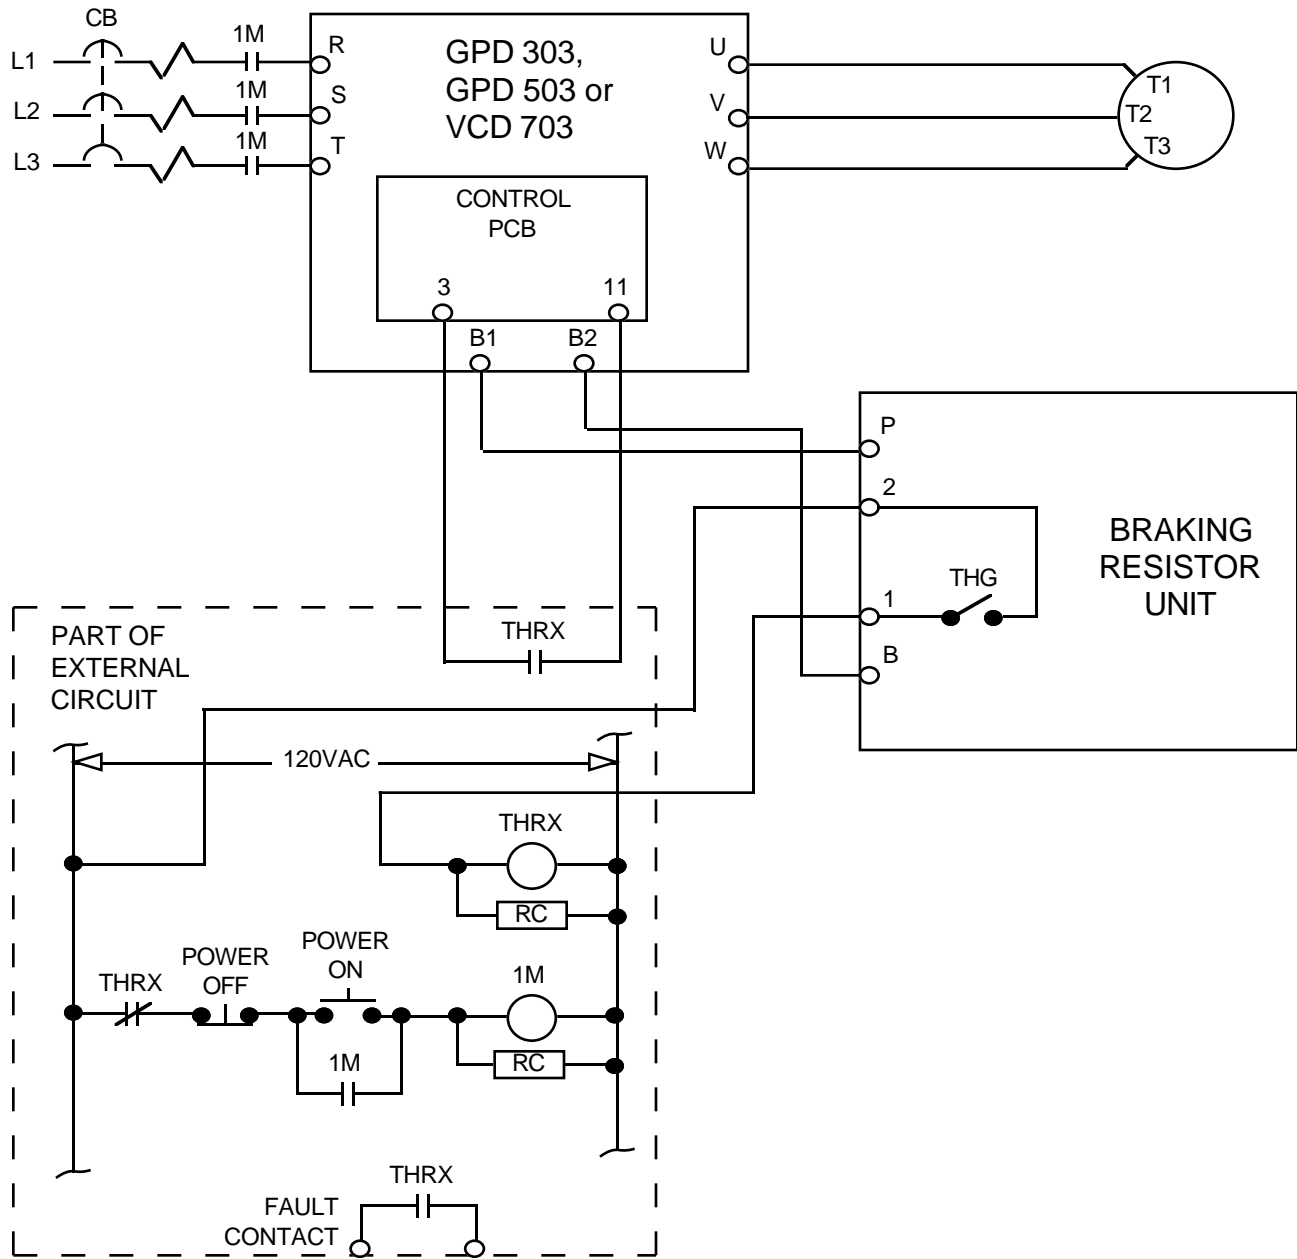

Figure 4. Wiring Braking Resistor Unit to Drive
This energy will cause the DC Bus voltage to rise. Another condition that will cause the DC Bus voltage to rise is when the input voltage to the drive is high. When the DC Bus voltage reaches a certain level, the Dynamic Braking option will activate. The option will actually "shunt" the regenerative energy away from the Bus capacitors, as shown in illustration (C), and will dissipate it as heat in the DB resistors. Since the regenerative energy is dissipated in the DC resistors, the Overvoltage (OV) trip is prevented; thus the motor remains excited and continues to produce braking torque. However, for the high input voltage condition, an input contactor (1M) should be used (see Figure 4) to disconnect the drive when the high input voltage exists for a long period of time.
9. Open the braking resistor unit terminal box for access to terminals. Connect the braking resistor unit to the drive according to Table 2 and Figure 4.
External control components shown in Figure 4 are not supplied with the option. These components are necessary for safe operation of the Dynamic Braking option.